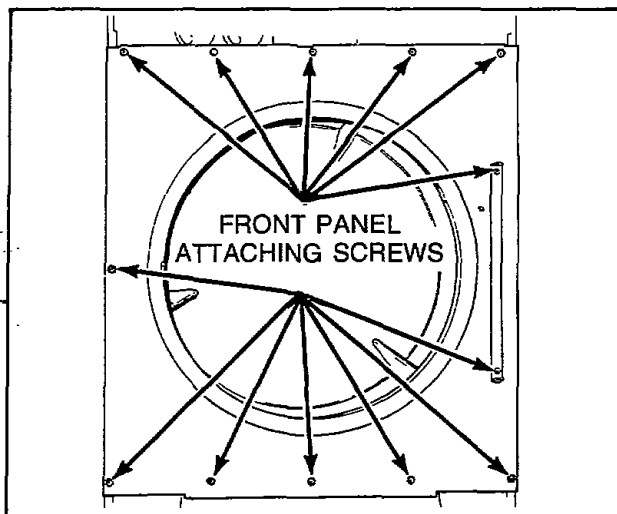

Figure 18
**14. FRONT PANEL** (Refer to Figure 18)